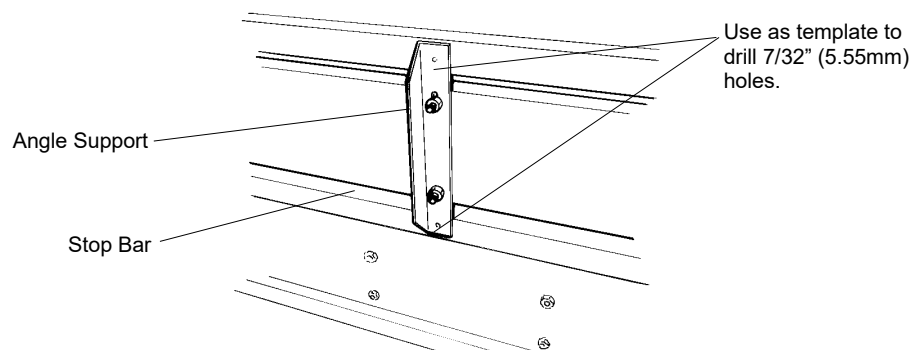

Figure 53: Installing the Stop Bar
2. Working from the front of the tool, attach the three angle supports (Fig. 53) to the back of the Stop Bar, using six $5/16 \times 3/4$ " (7.9mm x 19.05mm) hex-head cap screws and nuts. Tighten the nuts securely.